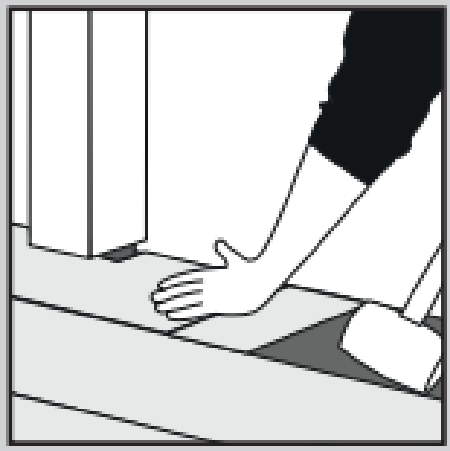

Figure 8
- 7) Under door frames: If plank/tile cannot be lifted use an adapted tapping block (off-cut of material) and mallet to carefully tap the plank/tile together flat on the floor (Fig. 8).